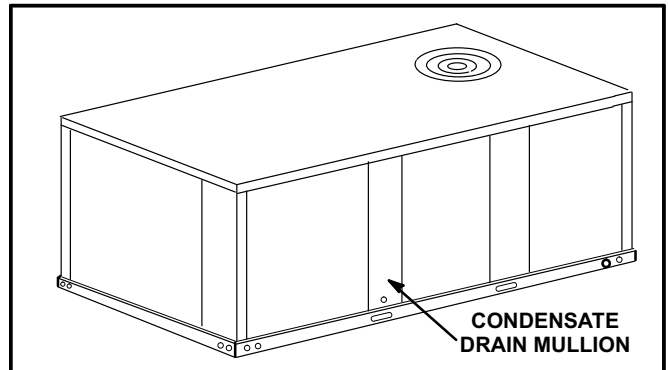

FIGURE 7
- 1- Remove the condensate drain mullion. See figure 7.